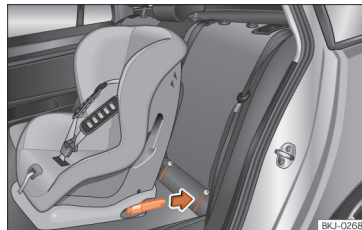

Fig. 38 Rear seats: fitting a child seat with the ISOFIX system.
- Press the child seat onto the ISOFIX or iSize retaining rings until it is heard to engage securely »» Fig. 38. If the child seat is equipped